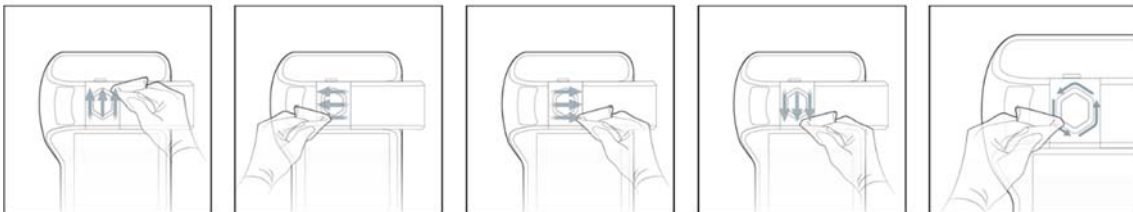

Figure 5. Wipe the insertion area of strip
6. Follow the Figure 5 to wipe the insertion area of strip.